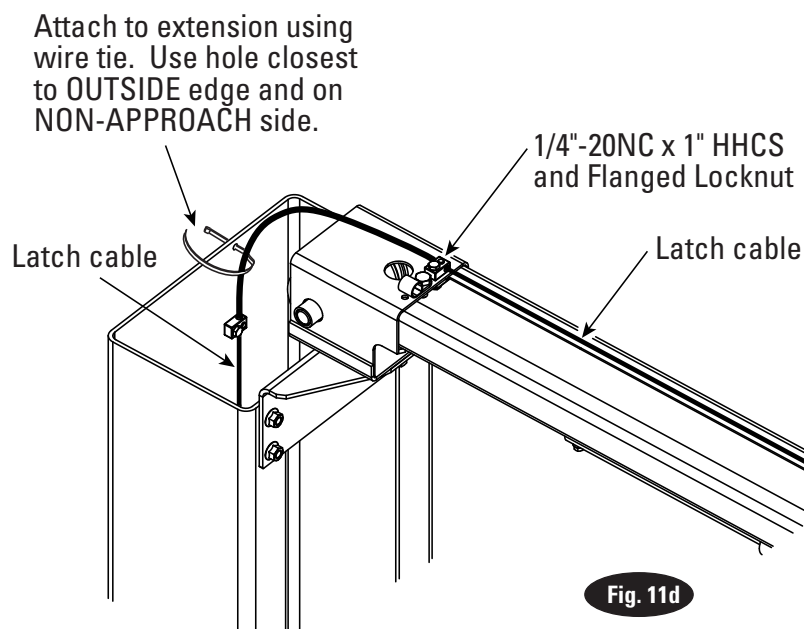
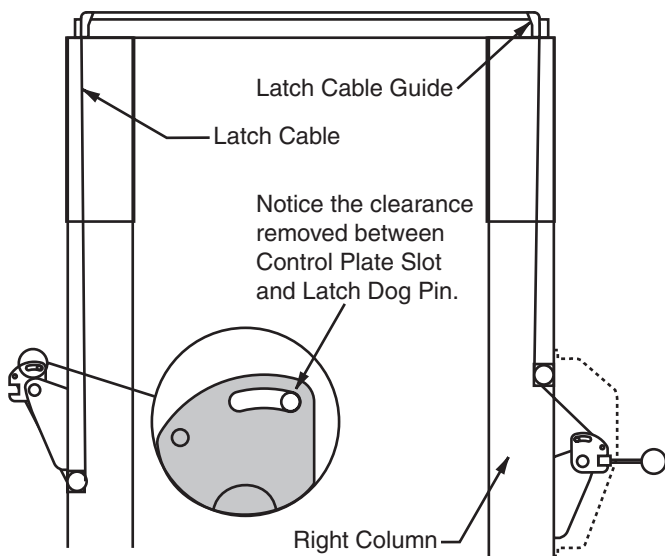
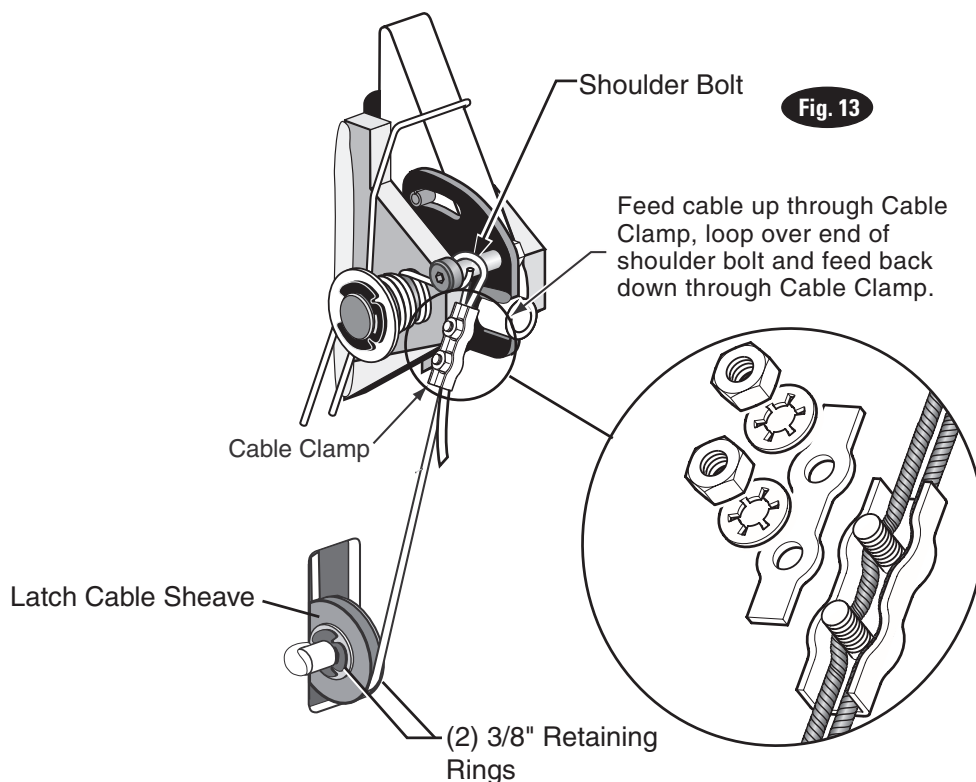

Fig. 11d
Fig. 12
Fig. 13
- D) Attach latch cable conduit guide brackets to overhead as shown, Fig. 11b & Fig. 11d. Always use the holes on the approach side of the lift. HHCS should be in hole nearest the center of the overhead, Fig. 11b.
- E) Route cable up inside column and through the latch cable guide, Fig. 11d & Fig. 12.
- IMPORTANT** Using wire ties provided, tie off cable guide to column extension as shown, Fig. 11d. Guide must be attached in hole closest to the outside edge of the column on the NON-APPROACH side.
- F) Continue routing cable to the left column latch cable guide, Fig. 11d & Fig. 12, routing the cable through the left column latch cable guide, Fig. 11d.
- G) Bring the cable down inside the left column and feed the end of the cable through the lower latch cable sheave slot so that the cable is now back outside the column, Fig. 13.
- H) Install latch cable sheave and retaining rings in lower slot of non-power unit column as shown, Fig. 13.
- I) Route cable under the bottom side of the latch cable sheave, Fig. 13.
- K) Insert cable in cable clamp along one side, loop around shoulder screw and back down, inserting cable along other side of cable clamp, Fig. 13. Place top back on clamp, barely tightening.
- L) Next, pull the control plate down, Fig. 12 & Fig. 13, to eliminate any clearance between the control plate slot and the latch dog pin, Fig. 12.